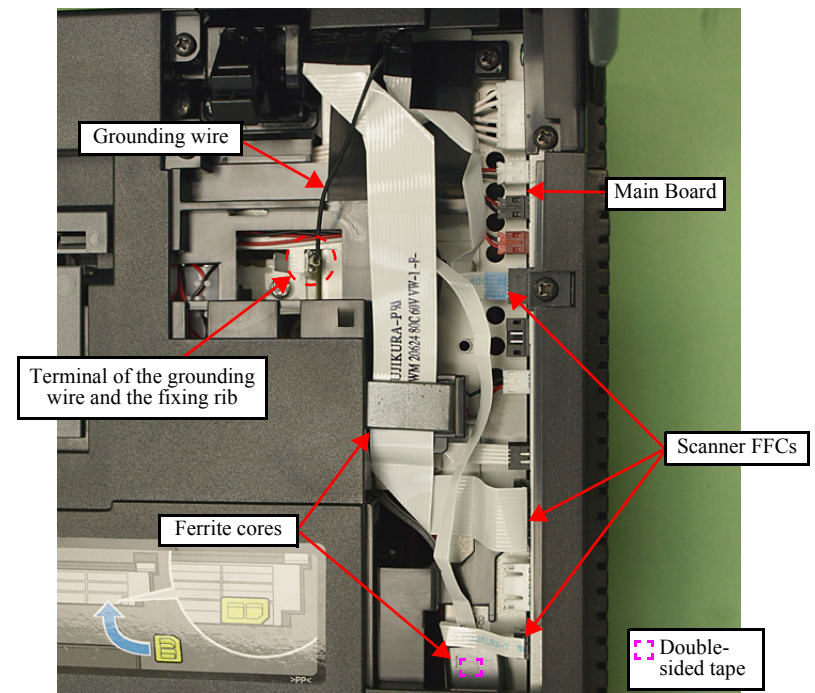

Figure 4-7. Removing the Scanner Unit (1)
2. Disconnect the Scanner FFCs (x3) together with the ferrite cores (x2) from the Main Board. (See Fig. 4-7.)
- Make sure to insert the terminal of the grounding wire to the fixing rib of the Frame. (See Fig. 4-7.)